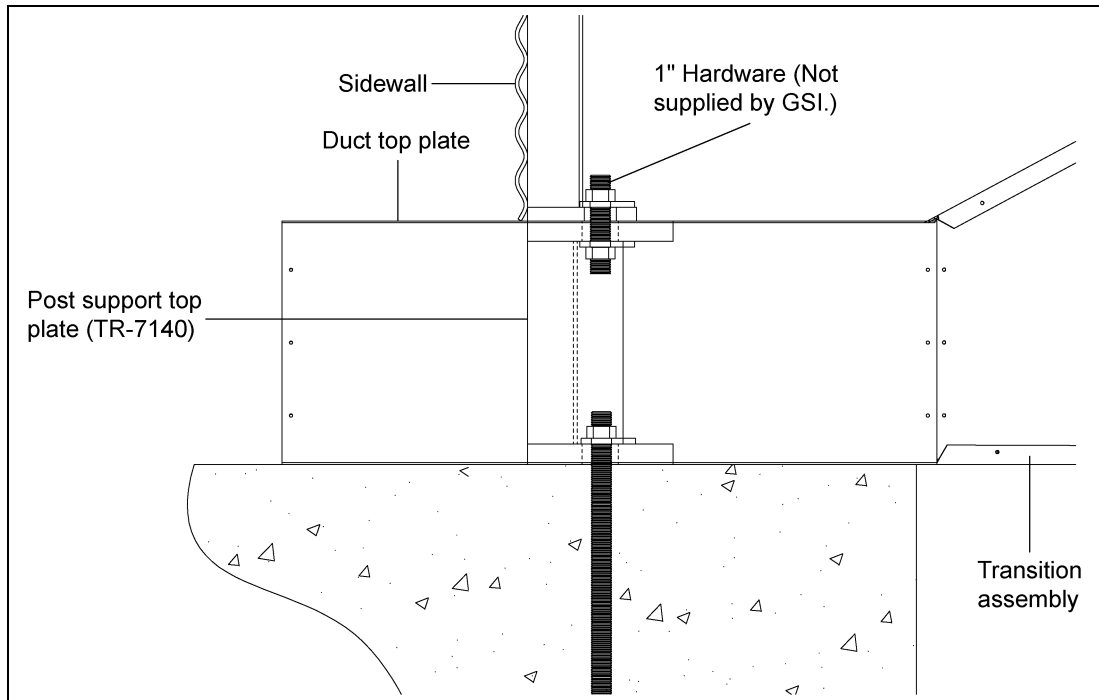

Figure 9
- Once the anchor bolt is installed, place the duct bottom plate and install the TR-7140 weldment through the anchor bolt. Replace the duct top plate and attach the base stiffener to the post support as shown in Figure 9. Secure using standard nuts and square washers.